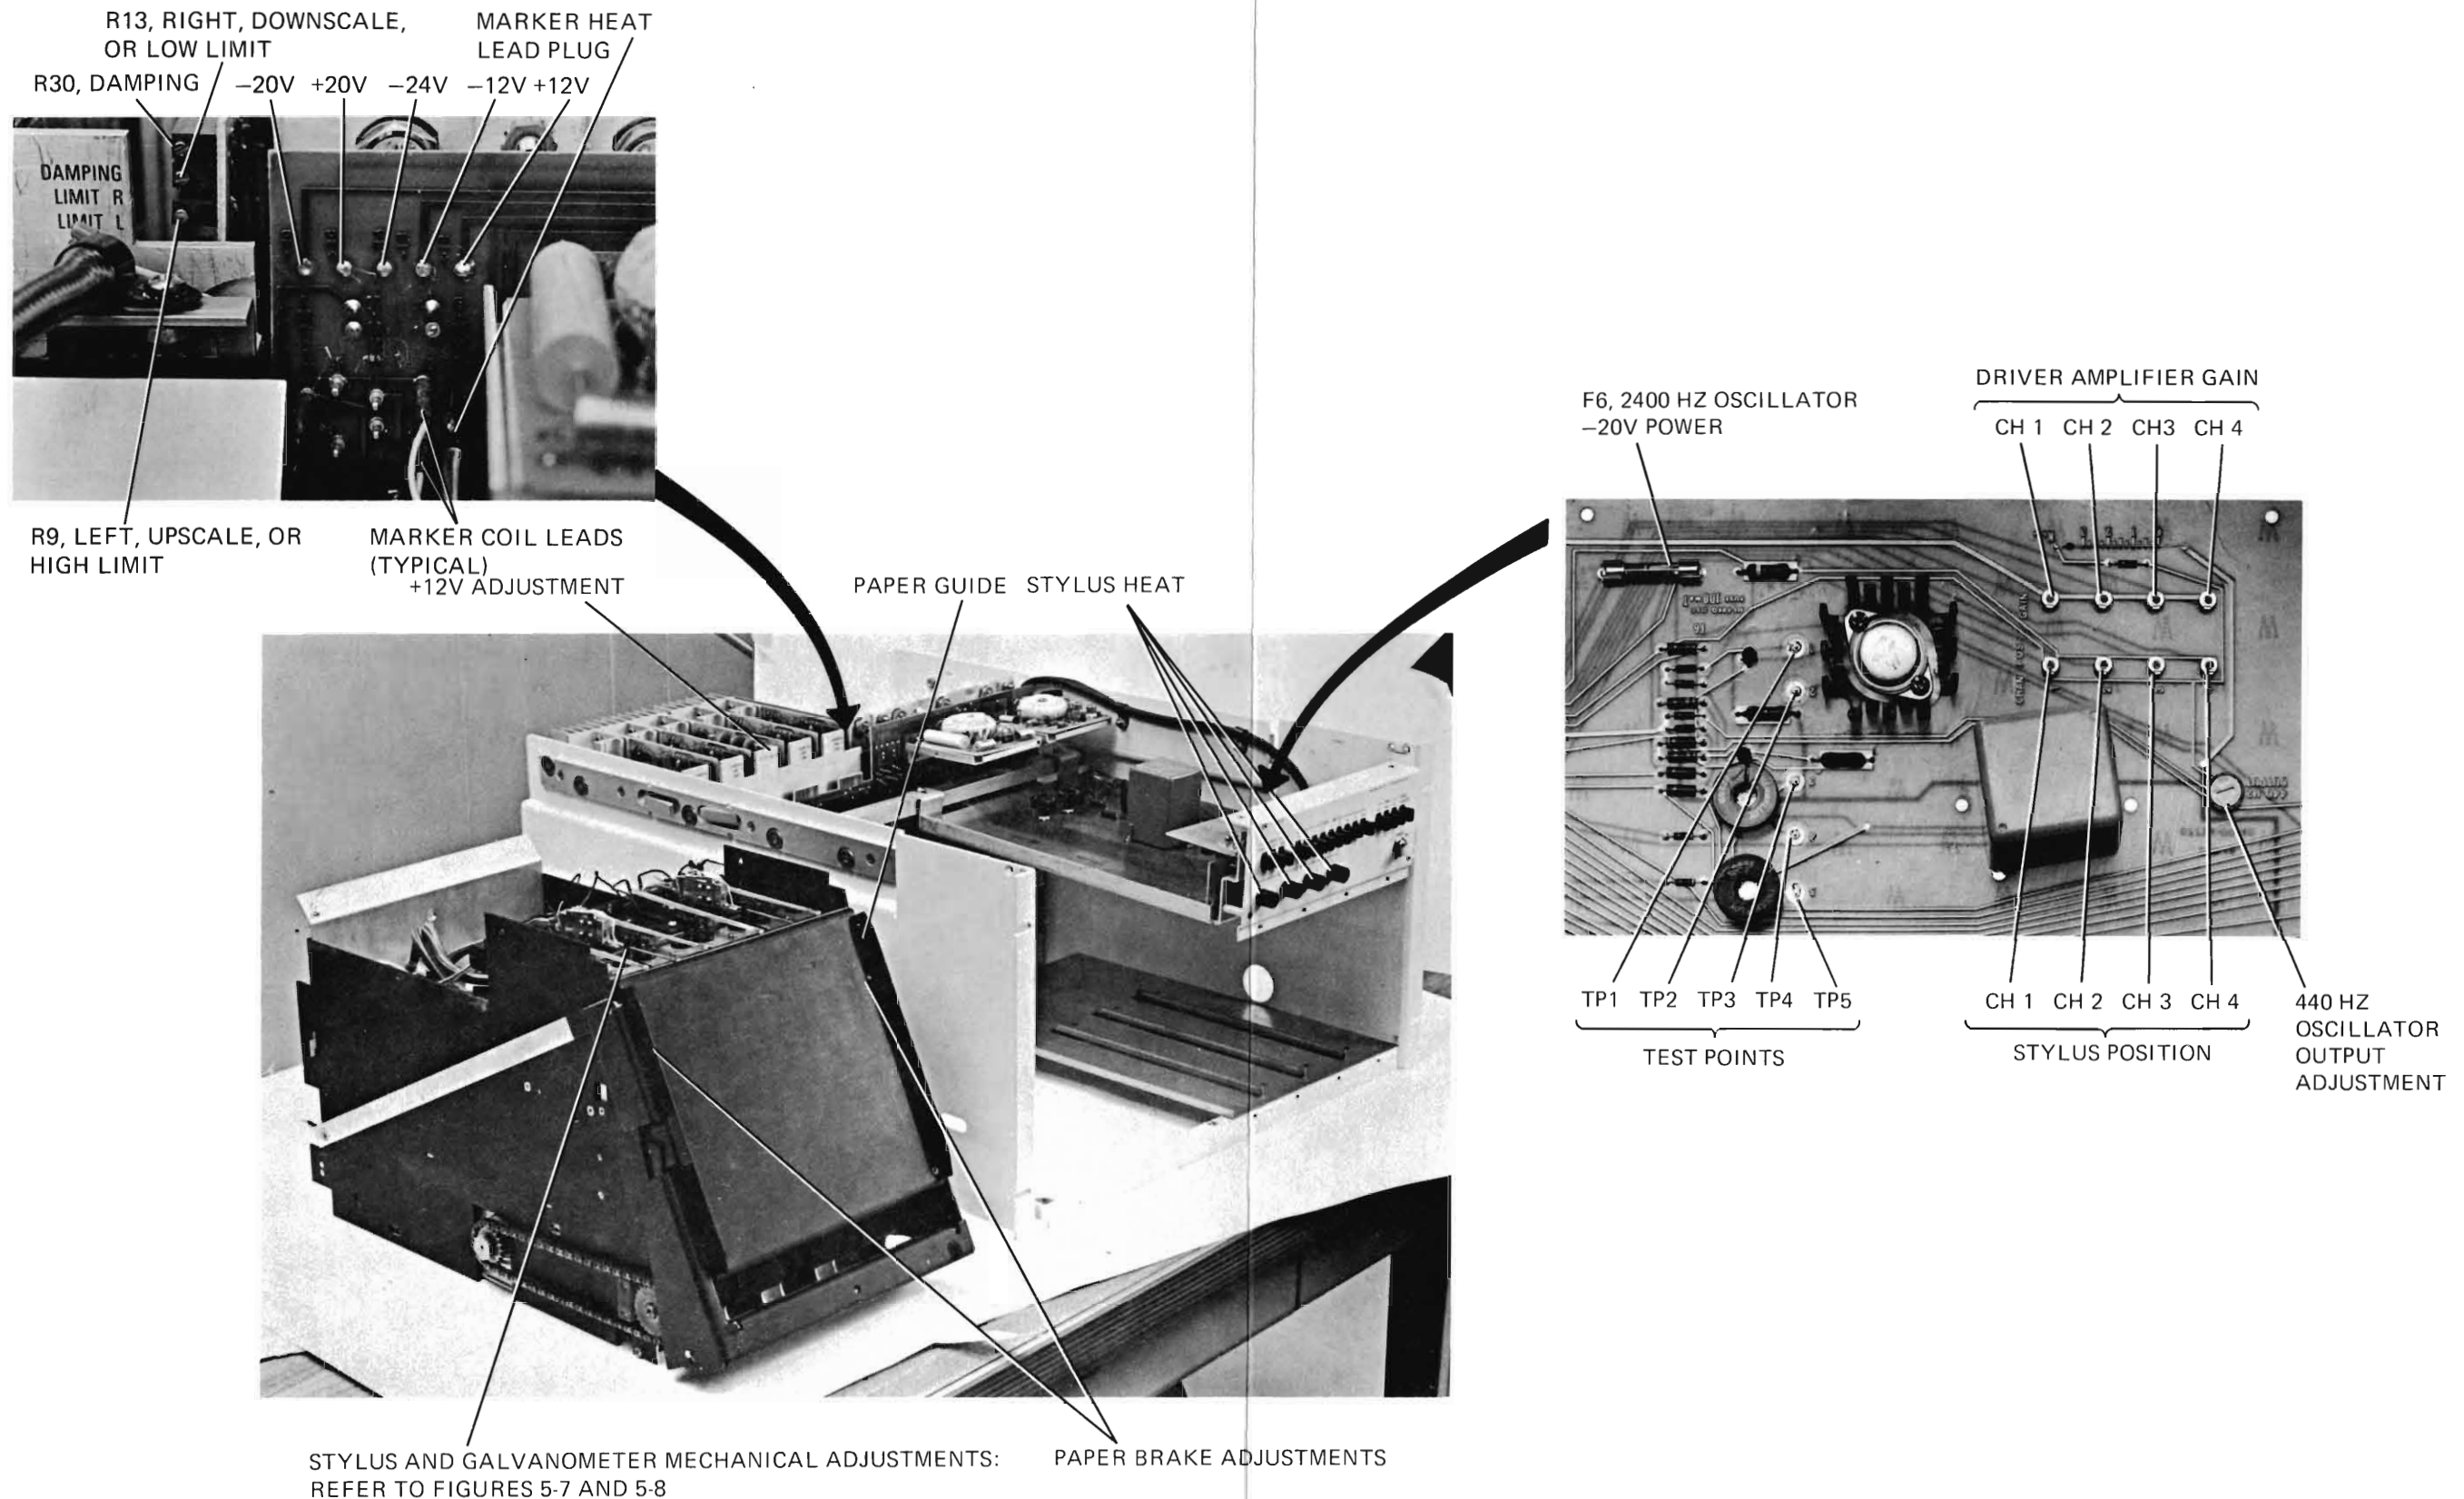

Figure 5-1. Test and Adjustment Points
- c. **Paper tracking:** The paper brake should be slightly tighter at one side or the other so the paper will track consistently to the right and not weave back and forth. Run approximately 5 feet of the chart at 25 mm/sec. Marker styli are normally in a fixed position between channels. Remove the record and measure the distance between the marker trace and the edge of the chart paper. The measurement should be consistent within ± 0.5 mm all along the length of the record. Repeat this procedure at the 100 mm/sec speed. If the paper weave exceeds the limit, loosen the left paper brake adjustment screw slightly (Figure 5-1). If adjustment is difficult or if tracking problems persist, see Paragraph 5-24.
h. **Stylus Heat:** Turn Recorder power ON, set SPEED to 25 mm/sec, and adjust STYLUS HEAT controls for best trace definition. Unlatch the Recorder (or raise the portable case lid), and rotate each preamplifier POSITION potentiometer (Figure 5-1) from one extreme to the other. Trace definition should remain the same over the whole channel width. If not, first check for an unlapped stylus. Then check for defects, improper clamping (Paragraph 5-29), or poor stylus pressure.
(Figure 5-1) for an output of 14.0 volts p-p on scope.